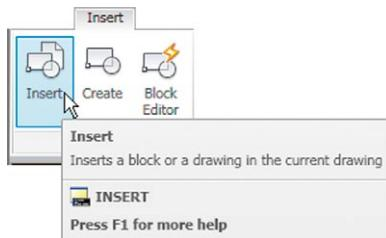
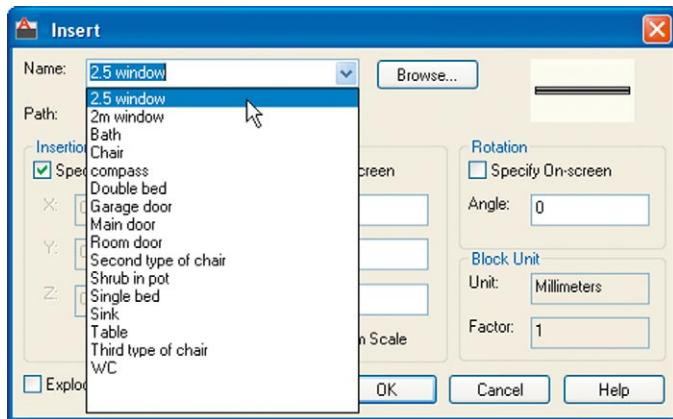

Fig. 9.6 The **Insert** tool icon in the Home/Block panel
Fig. 9.7 The **Insert** dialog with its **Name** popup list showing all the blocks
1. *Left-click the **Insert** tool icon in the **Home/Block** panel (Fig. 9.6) or the **Insert Block** tool in the **Draw** toolbar. The **Insert** dialog appears on screen (Fig. 9.7). From the **Name** popup list select the name of the block which is to be inserted, in this example the **2.5 window**.*